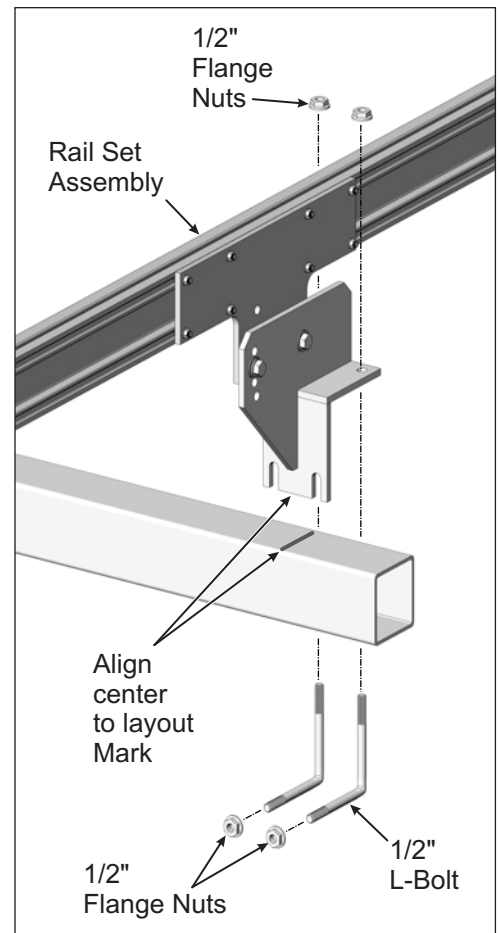

Figure 4-5: Attaching the Rail Set to the Horizontal Tube
- Using a tape measure, mark the pre-determined locations of the Rail Sets on the Horizontal Tube using the instructions outlined above. (See Figure 4-5)